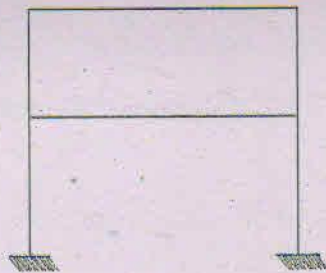

Figure 1
(viii) The degree of static indeterminacy of the following figure 1 is (2)